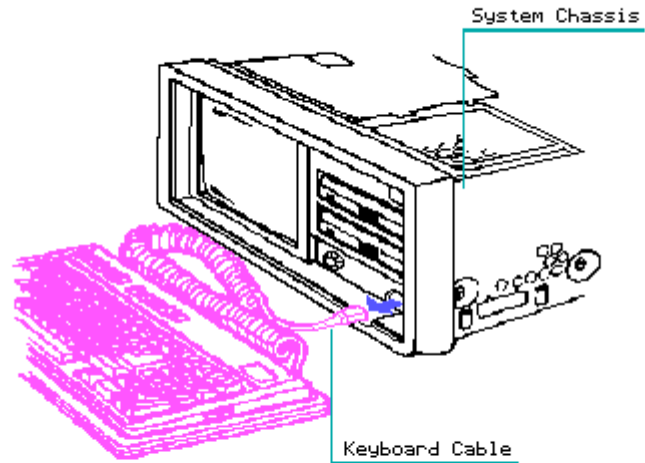

Figure 7-11. Removing the Keyboard
4. Unlock the keyboard latches and gently slide the keyboard cable from inside the computer system chassis (Figure 7-11). Remove the keyboard from the computer system chassis.